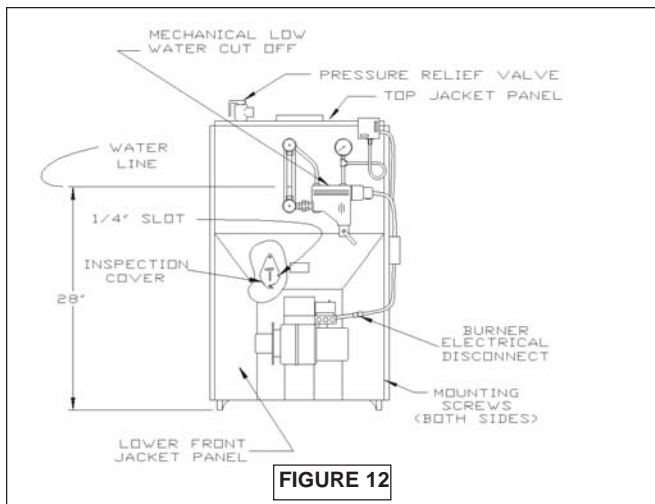

FIGURE 12
The lever of the pressure relief valve (*Figure 12*) on the boiler should be operated periodically to make sure that it is functioning properly.
A 1/4" diameter slot is provided in the inspection cover plate to take draft readings in the combustion chamber. (Figure 12) A 1/4" diameter hole will be required in the flue pipe between the boiler and barometric damper (if used) to take draft, CO₂, smoke and temperature readings. Adjust air shutter on oil burner to obtain a "trace" of smoke. Measure CO₂ at this point. Increase air adjustment to lower CO₂ approximately one percent. Check to insure minimum negative .02 w.c., (water column), "overfire" draft and zero smoke. If -.02 w.c. "overfire" draft can not be maintained, changes and/or modifications may be required in the venting or the chimney.
Preventative maintenance of an oil fired boiler reduces operating costs. The boiler and vent pipe should be inspected for accumulation of soot or scale deposits periodically but at least once every year before the start of each heating season. When soot is present on the section walls and flueways, improper combustion will result, causing additional sooting and scaling until flueways are completely closed. To remove soot and scale from the flueways, remove top jacket panel, top clean-out plate, open burner swing door. (Figure 12)
2. Disconnect power cable at factory supplied burner electrical disconnect. (Figure 12)
3. Loosen screws on the sides of the lower front jacket panel. (Figure 6) Pull the bottom part of the lower front panel forward and lift the lower front panel up and off the boiler. (Figure 12)
On steam boilers make certain the boiler is filled to the water line as indicated in Figure 12. The gauge cocks should be normally open. To remove dirt from the gauge glass the petcock may be opened to flush out the glass.
The lever of the pressure relief valve on the boiler (Figure 12) should be operated periodically to make sure that it is functioning properly.
The safety valve should open before the steam pressure exceeds the 15 lb. reading on the gauge. (Figure 12) If this pressure is exceeded and the safety valve does not open, it must be replaced. If the safety valve leaks steam when the boiler is operating at normal pressures, it should be immediately replaced. Corrosion can build up rapidly at the valve seat and prevent its functioning as a safety device. If the water in a steam boiler appears to be dirty or oily, or the water level in the gauge glass fluctuates considerably, the boiler should be cleaned. A competent service person will use approved cleaning compounds and properly clean and flush out the boiler. He/she should also clean or replace air vents and traps, clean flue passages and check for proper operation of all controls and safety devices.